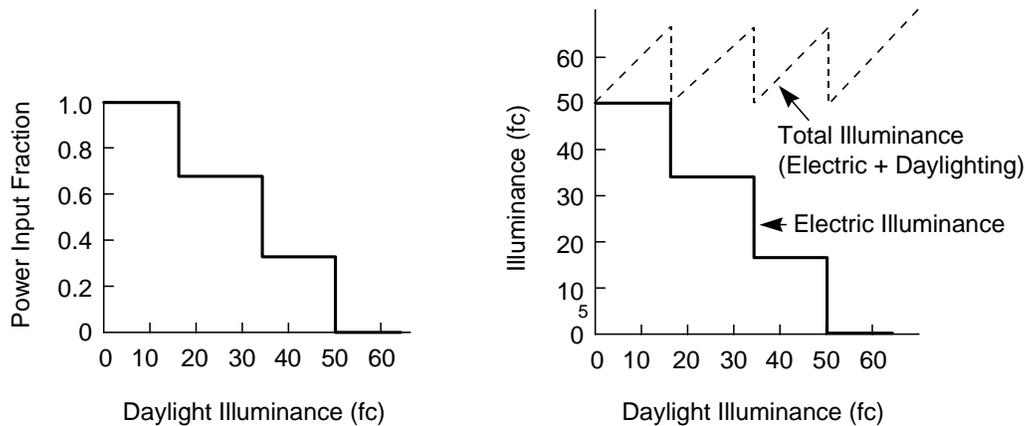

Figure 22 Control action for STEPPED lighting control.
**STEPPED** Specifies the control system shown in Figure 22, in which power input and light output vary in discrete, **equally spaced** steps. The number of steps (excluding zero) is given by LIGHT-CTRL-STEPS.
Gives the number of steps, excluding zero, in a stepped lighting control system. The steps are assumed to be equally spaced, as shown in Figure 22. An on-off control system has LIGHT-CTRL-STEPS=1. LIGHT-CTRL-STEPS applies to the lighting system 1, LIGHT-CTRL-STEP applies to the lighting system 2.
Specifies the minimum input power fraction for a CONTINUOUS or CONTINUOUS/OFF lighting control system (see Figure 22). See manufacturer's data for appropriate value. MIN-POWER-FRAC applies to the lighting system 1, MIN-POWER-FRAC2 applies to the lighting system 2.
Specifies the fractional light output that a CONTINUOUS or CONTINUOUS/OFF lighting control system produces at the minimum fractional input power given by MIN-POWER-FRAC (see Figure 22). See manufacturer's